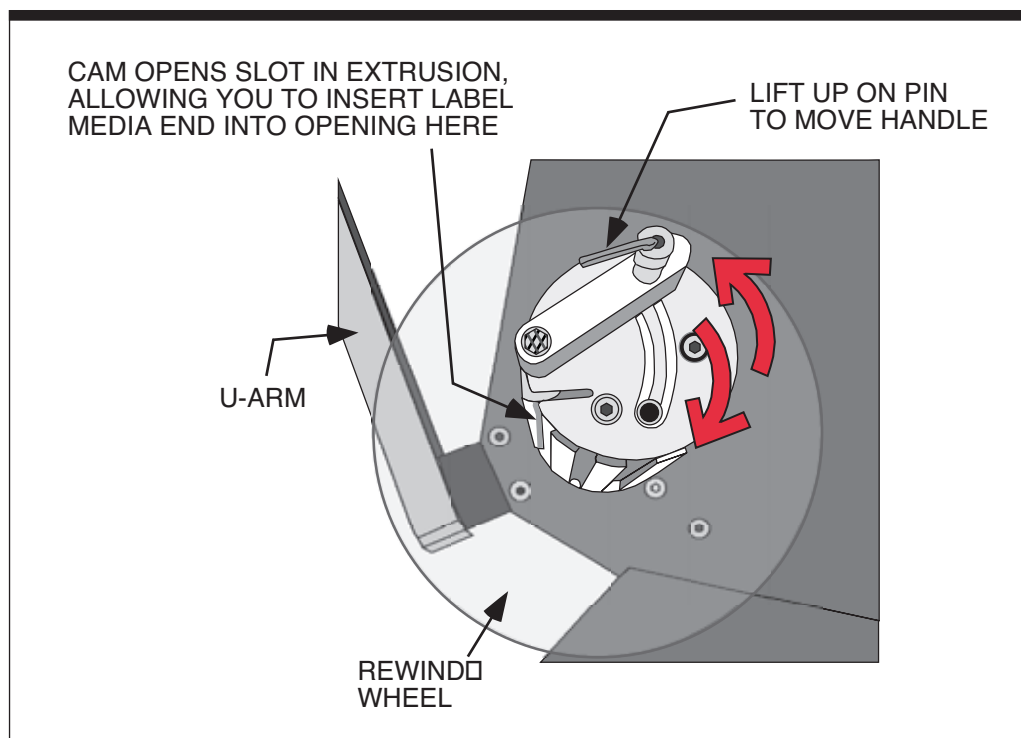

Figure 4-4. Rewind Assembly - Threading
- Step 8. Open the Cam on the Rewind Assembly.** Open the cam (refer to Figure 4-4) on the extrusion shaft of the rewind assembly. Insert a portion of the end of the label into the cam, and rotate the wheel to wrap up excess label stock. The label stock (media) should be riding evenly on the rollers and the tension should be fairly secure, but not too tight.